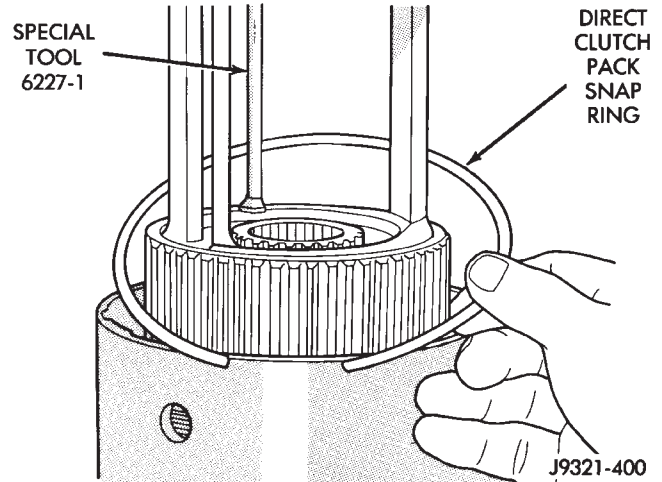

Fig. 236 Direct Clutch Pack Snap Ring Installation
- (21) Compress clutch hub and spring just enough to place tension on hub and hold it in place.
- (22) Slowly compress clutch hub and spring. Compress spring and hub only enough to expose ring grooves for clutch pack snap ring and clutch hub retaining ring.
- (23) Realign clutch pack on hub and seat clutch discs and plates in clutch drum.
- (24) Install direct clutch pack snap ring (Fig. 236). **Be very sure snap ring is fully seated in clutch drum ring groove.**